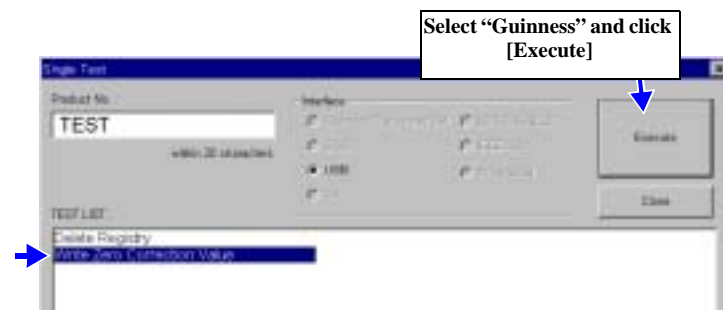

Figure 5-16. Execution of Home Position Adjustment
4. When the window shown in the figure is displayed, click the [Execute] button to run the program. (See Figure 5-16)